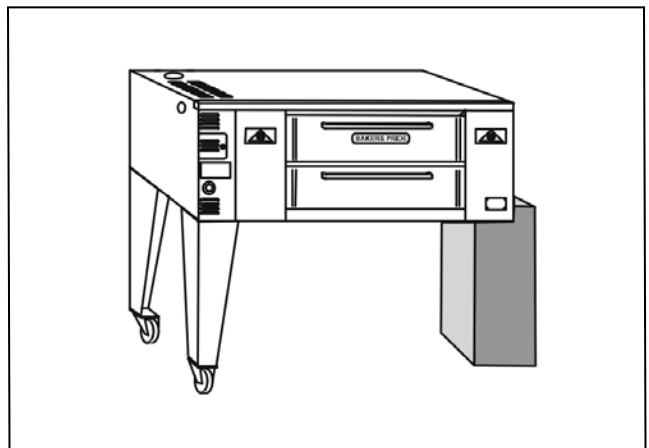

Figure 6
- Using proper lifting equipment, raise the back side of the oven to a height slightly Figure #3 higher than the height of the legs, remove the skid and place a sturdy support under the back side (See Fig.6). Mount other two legs and tighten bolts. Lift the oven and remove the supports.